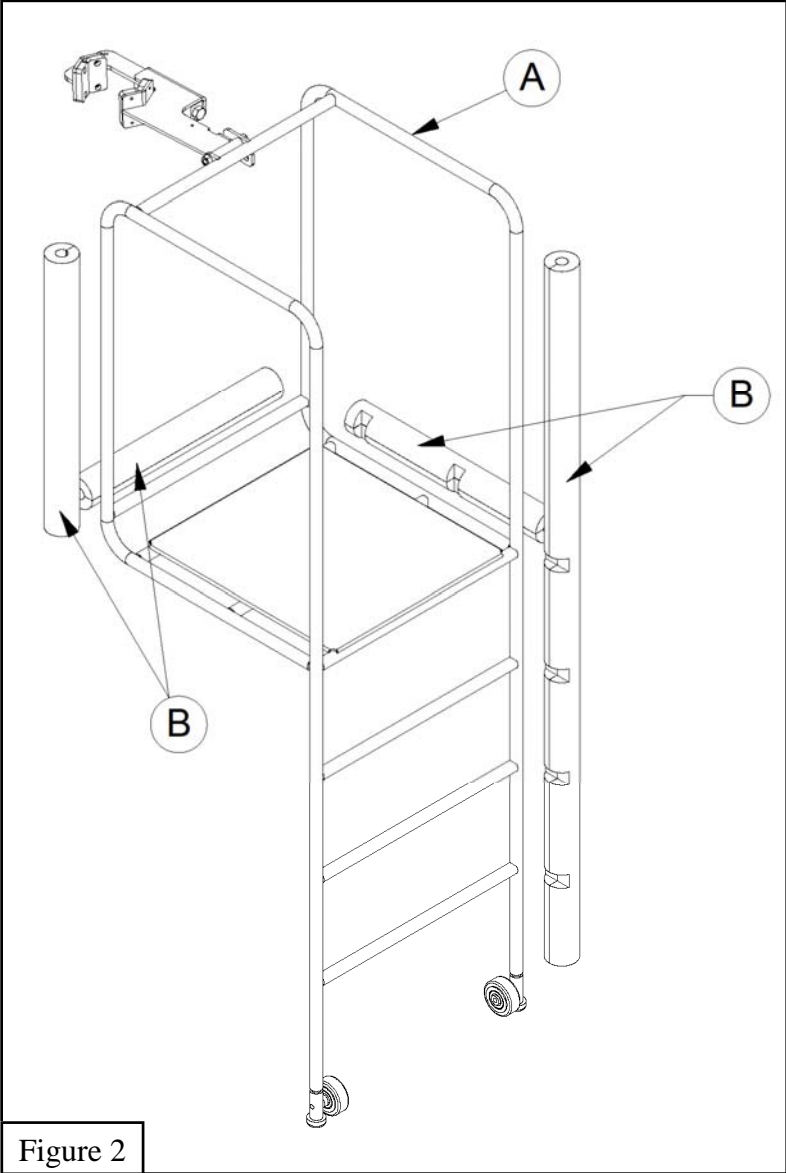

Figure 2
3. Install *Safety Padding Set* (B) on *Officials Stand* (A). See Figure 2.